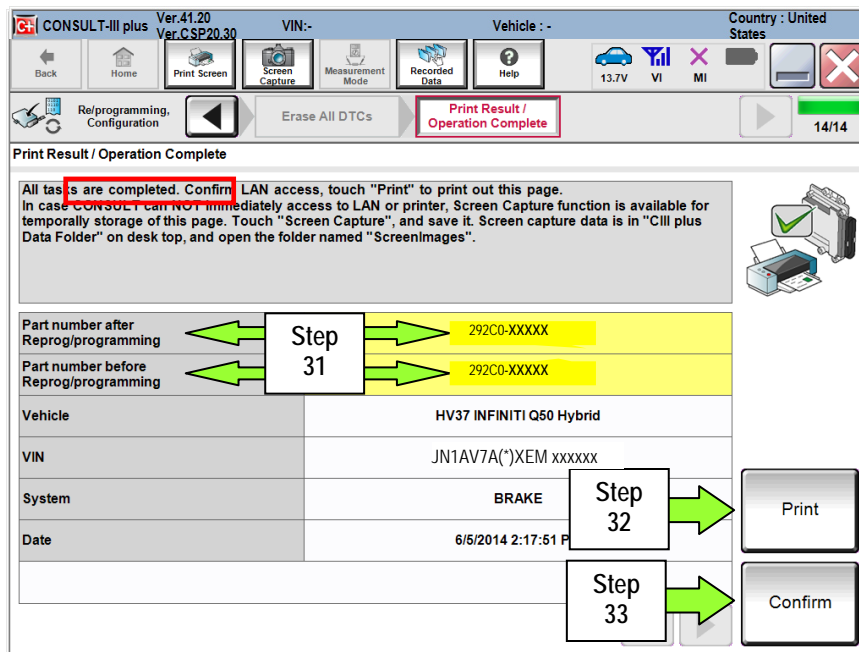

Figure 22
32. Print a copy of this screen (Figure 22) and attach it to the repair order.